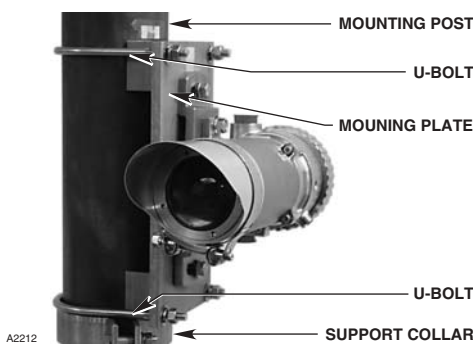

Figure 6—OPECL Detector Attached to Mounting Post
1. Install the Plate Support Collar onto the vertical post at the desired height. Refer to Figure 6. Ensure that the plate support collars for both modules are installed at the same distance above grade/floor elevation to ensure ease of optical alignment later. Tighten the plate support collar nuts and bolts to adequately support the entire assembly.